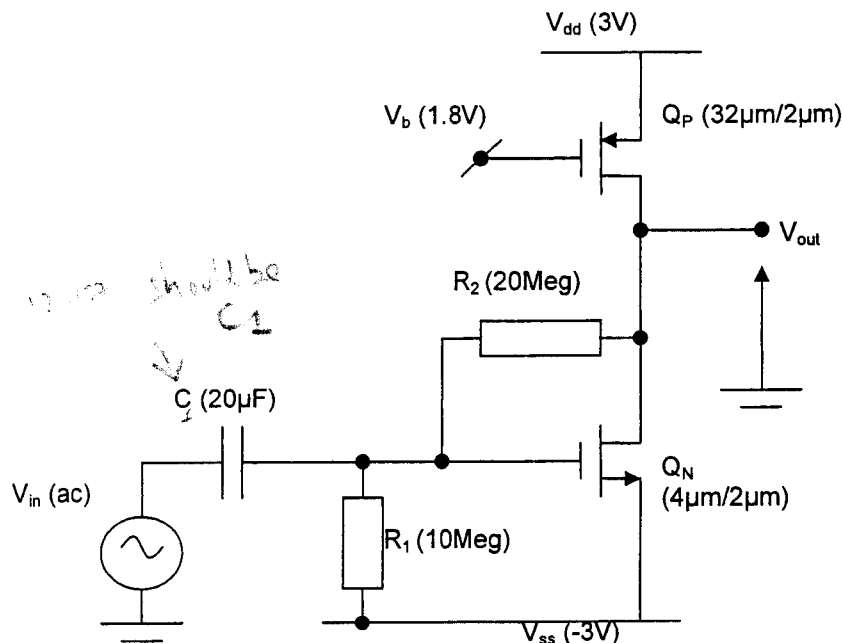

Figure 1.1
1. (a) The circuit shown in Figure 1.1 is a single-stage inverting voltage amplifier using two CMOS FETs. Write a simple SPICE programme which will compute a small signal gain and phase frequency response analysis of the circuit over the frequency range 10 kHz to 10 MHz. The .OPTIONS card and the transistor model process parameters QP and QN are already built into the SPICE Library.